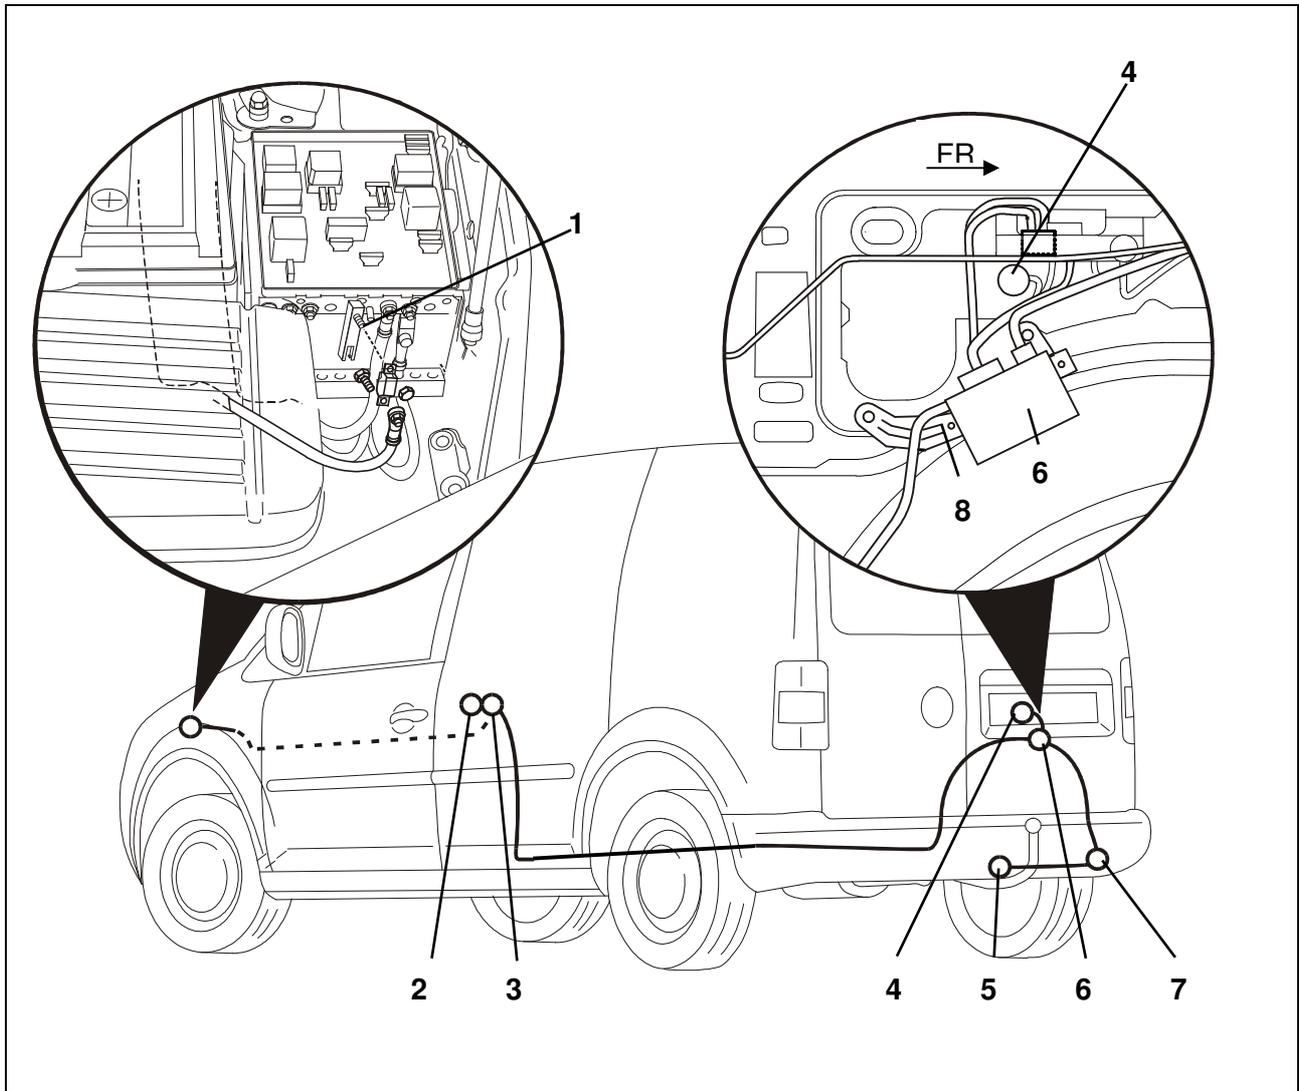

Fig. 1: Installation overview
In case the device support 2K0 959 503 A (Fig. 1/8) is not fitted in the vehicle for the trailer control unit, this must be ordered via VW Kassel.
3. Insert and lock the trailer connection unit into the device support (Fig. 1/8).
4. Or fasten the trailer control module to the right-hand side of the luggage trunk (Fig. 1/8) using velcro tape provided. Make sure it is securely fastened!
5. Remove the cover from the 40 mm hole in the rear, right side panel of the vehicle (Fig. 1/7).
6. Route the end of the cable set with the socket from inside through the hole to the socket mounting plate (Fig. 1/5).
7. Insert the rubber grommet in the hole (Fig. 1/7).
9. Secure the socket to the mounting plate with the screws provided (Fig. 1/5), torque setting: max. 2.0 Nm.
10. Connect and lock the 12-way and 16-way plug housing in the sockets provided on the trailer connection unit (Fig. 1/6).
12. Connect the brown wires with eyelets to the ground point on the vehicle (Fig. 1/4).
13. Route the remaining cable set along the vehicle cable looms / cable ducts up to the control unit for the vehicle electrical system, front right (Fig. 1/2).
18. Remove black cover from fuse box (Fig. 1/3) and slide open the purple catch, take the fuse-protected wire out of compartment 12 (terminal 15) and insert it into the 1-pin housing on the cable set. Re-insert the individual black/blue wire of the cable set into compartment 12 of the fuse carrier. Fit the now open 1-pin housings together.
Route the wire end with cable lug through a suitable hole in the mounting plate grommet up to the uninterrupted positive distribution (Fig. 1/1) of the central electrics (EM box) in the engine compartment.